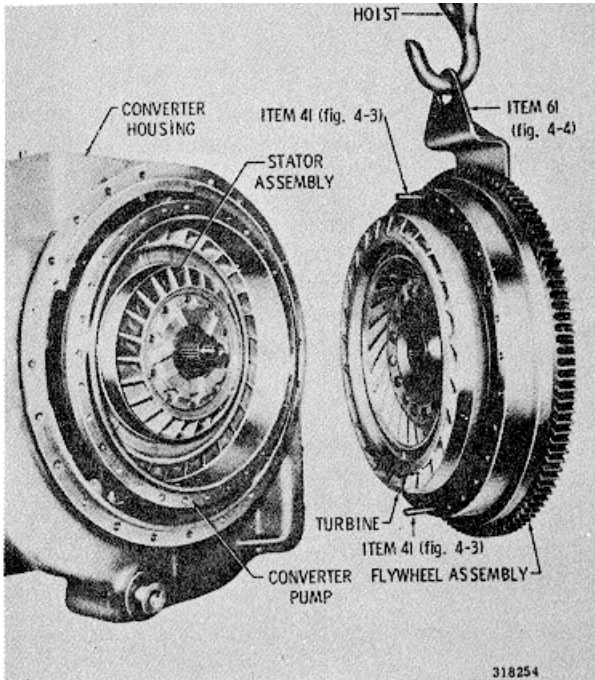

Fig. 7-58 Installing flywheel and turbine
- (1) Position the transmission horizontally (fig. 7-58).
- (2) Place the flywheel assembly (as assembled in para 6-3) on a work table, ring
gear side down. Install one 3/8-24 x 2-inch guide screw 41 (fig. 4-3) into one of the flywheel mounting holes (fig. 7-58).
(4) Attach a hoist to the lifting bracket. Aline the flywheel assembly with the transmission (fig. 7-58).